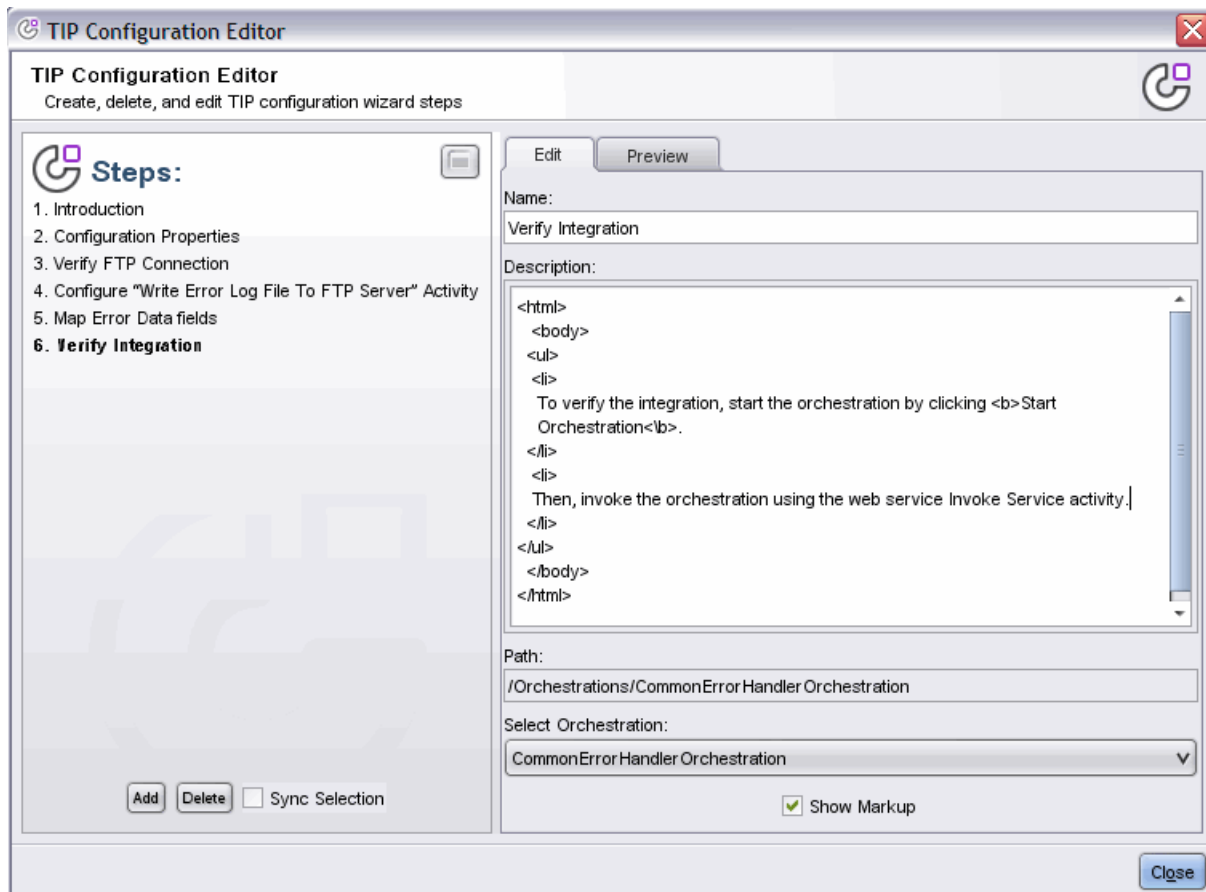

Figure 7-16 Verify Integration Step
- d. Enter the instructions in the Description field, as shown in Figure 7-16.